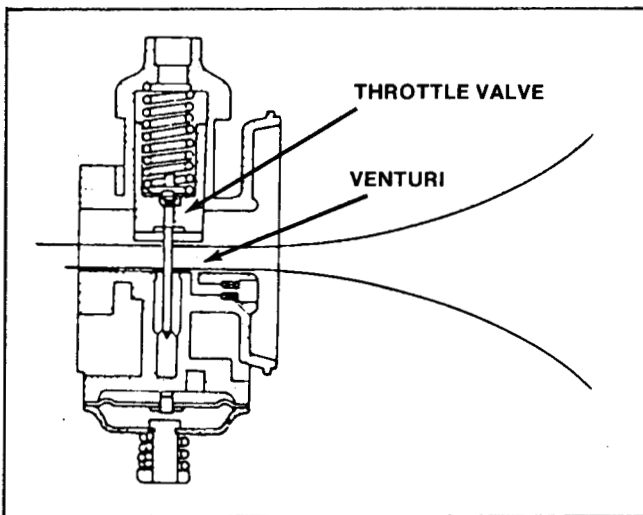

Figure 12
- The venturi is the portion of a carburetor throat that is narrowed in order to increase air velocity. On the TC1000 carburetor, the venturi size is variable and is controlled by the position of the throttle valve. See Figure 12.